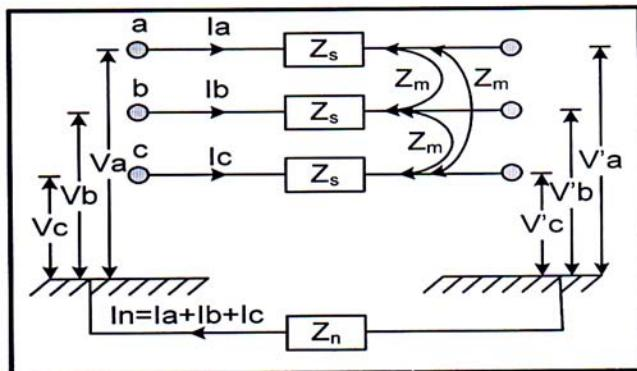

Figure 2
- Q6)** a) An unsymmetrical loaded transmission line is given in following figure 2. Show that $Z_0 = Z_s + 2Z_m + 3Z_n$ and $Z_1 = Z_2 = Z_s - Z_m$ [9]